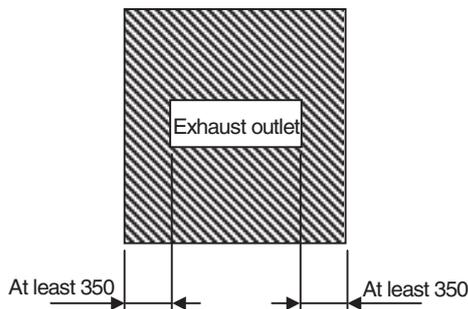

Figure 1
- For an installation like that of Figure 1, the shaded area indicates the inflow area.
The figure at the right shows sound attenuation over distance. (Figure 1)
Example. For a type 280 outdoor unit, the sound level in the 50-Hz range at 3m distance is specified as 56 dB(A). In Figure 1, follow the 3m distance line downwards to where it crosses the slope (a), and then horizontally to point (b) at the left to find the attenuation of 6.8 dB(A). Therefore, $56 - 6.8 = 49.2$ dB(A)